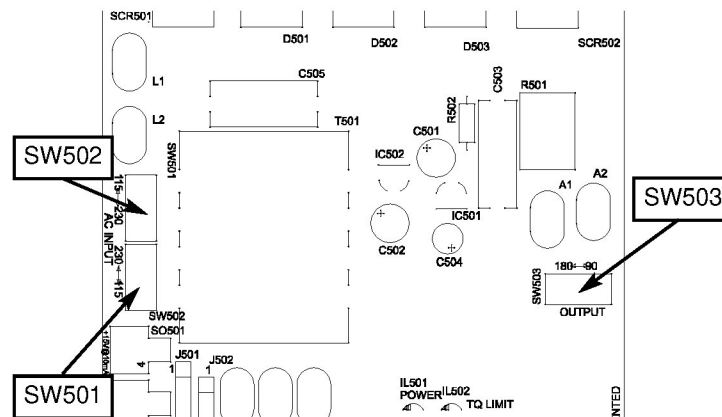

Figure 9. Voltage Switches
- Set voltage switch SW501 and SW502 to either 115V or 230V to match the AC line voltage. Set voltage switch SW503 to either 90V or 180V to match the maximum armature voltage (Figure 9).